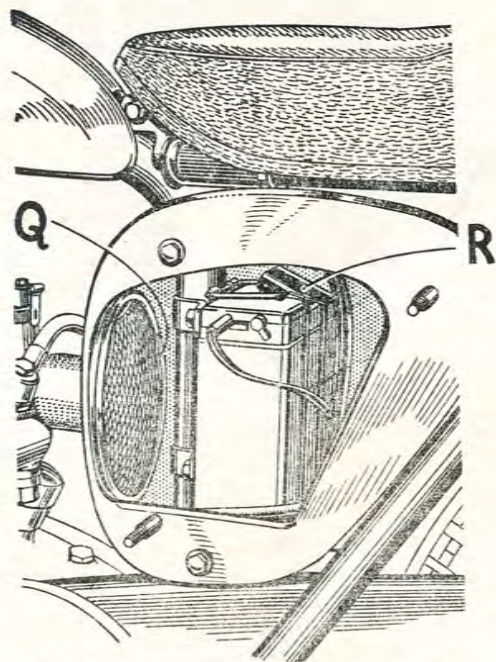

Fig. 12. Air Cleaner and Battery Box.
The air cleaner is contained within the housing below the seat. At 1,000 mile intervals remove the two screws retaining the cover, which should then be taken off (Fig. 12). Prise out wire circlip (Q) thus releasing the perforated cover and filter element. Wash the element in petrol, and dry thoroughly.